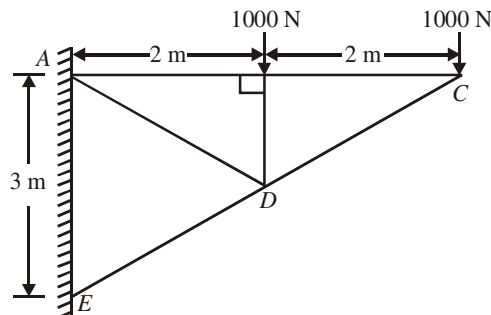

Fig 13.67
Q. 23: Determine the forces in the members BC and BD of a cantilever truss shown in the figure 13.67.